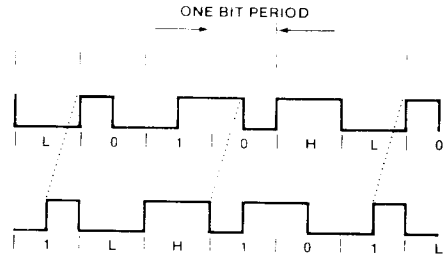

Figure 3. STARLAN Collision Presence Signal
The 82C551 detects collision on the receive data. When two or more than two receive inputs are active at the same time, the 82C551 generates a Collision Pattern (CP) signal. CP is also generated when the incoming data on the receive input has jitter on the signal exceeding the specifications of ± 90 ns. The CP is an IEEE 802.3 STARLAN specific collision pattern as illustrated in Figure 3.